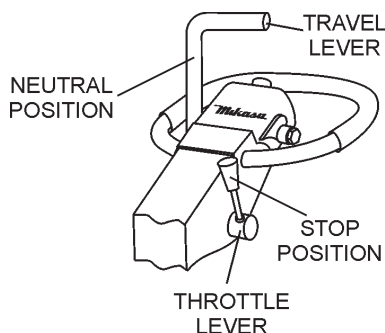

Figure 22. Throttle Lever (Stop)
- Place the throttle lever in the **STOP** position (Figure 22) to stop the engine.